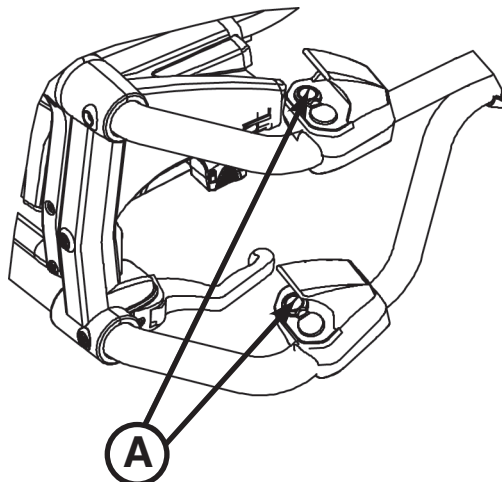
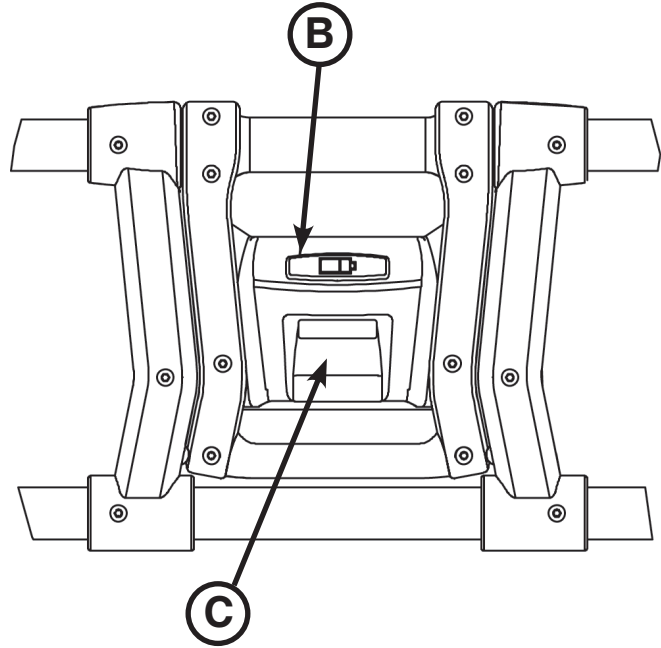

Figure 18: Retract Button - Control Switch
Figure 19: Foot End Control Enclosure
To check the battery power level, press the retract (–) button (A) as shown in Figure 18 on the cot control switch to activate the cot battery LED indicator (B) as shown in “Figure 19: Foot End Control Enclosure” on page 1-29.
The hour meter (C), located on the foot end control enclosure, indicates the amount of time (HHH.H hours) that the hydraulics have been activated as shown in Figure 19. You can use the hour meter to determine the frequency for preventative maintenance procedures as listed on page 1-62.